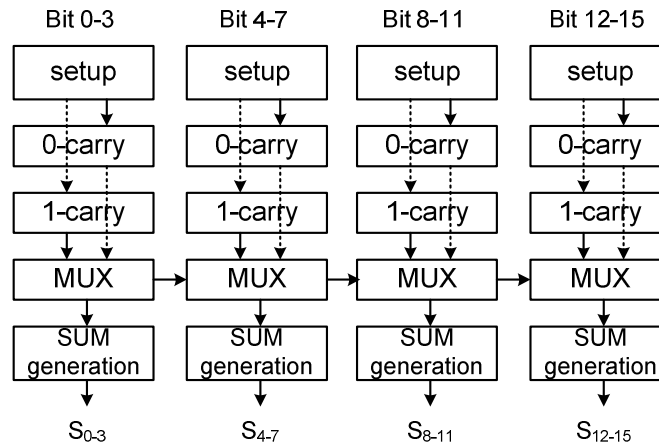

Figure 2
2. Consider the 16-bit carry select adder shown in Fig 2. All inputs are initially set to zeros. ( $T_{MUX} = 200ps$ ,  $T_{SETUP} = 100ps$ ,  $T_{SUM} = 175ps$ ,  $T_{CARRY} = 100ps$  for a single bit). [29 points]